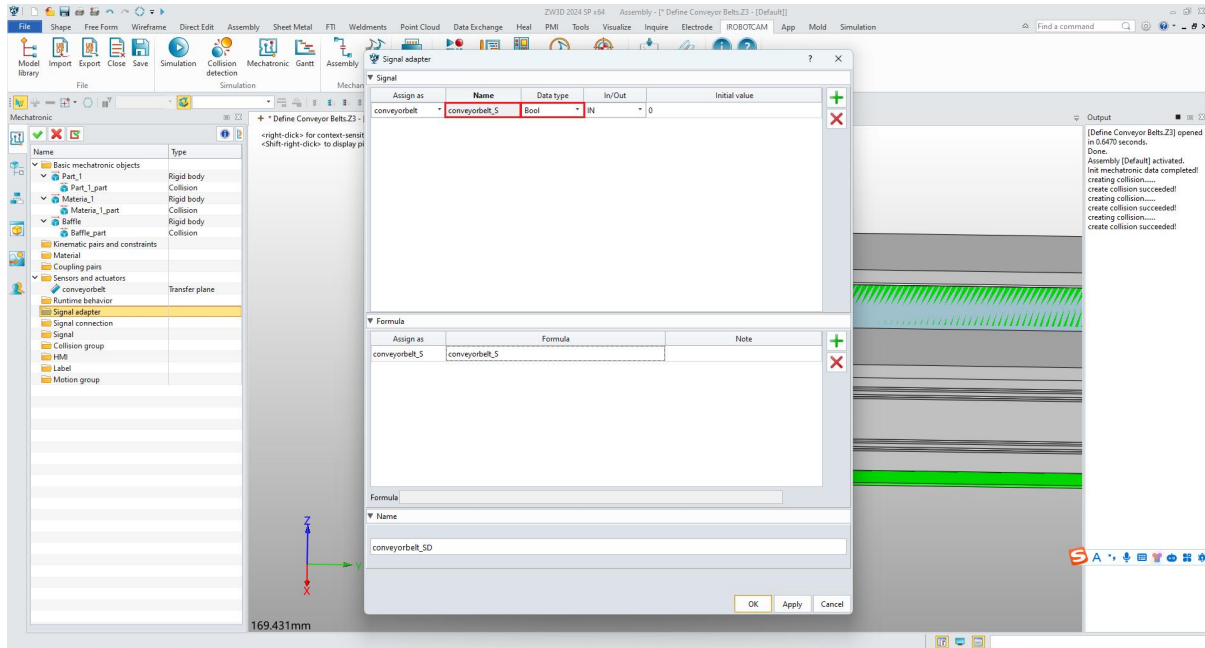

Figure 6-16: Add Signal Adapter
- Add parameters as shown in the provided figures, including signals, formulas, and names. Click OK to generate signal adapter objects and signal objects. (Figure 6-16)